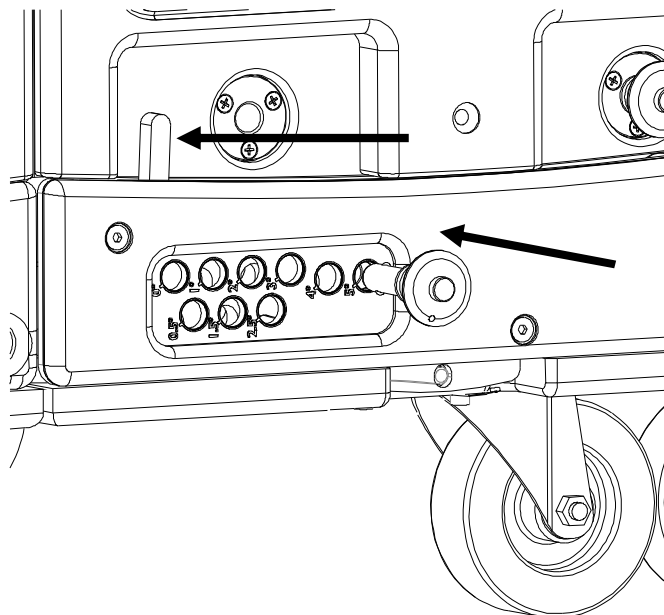

Figure 33: Pre-selecting the angles (5° example)
- On both sides of each enclosure, pre-select the angle: hold a R-BLP facing to the desired angle hole, slide out the angle arm until the R-BLP enters and locks (see Figure 33).